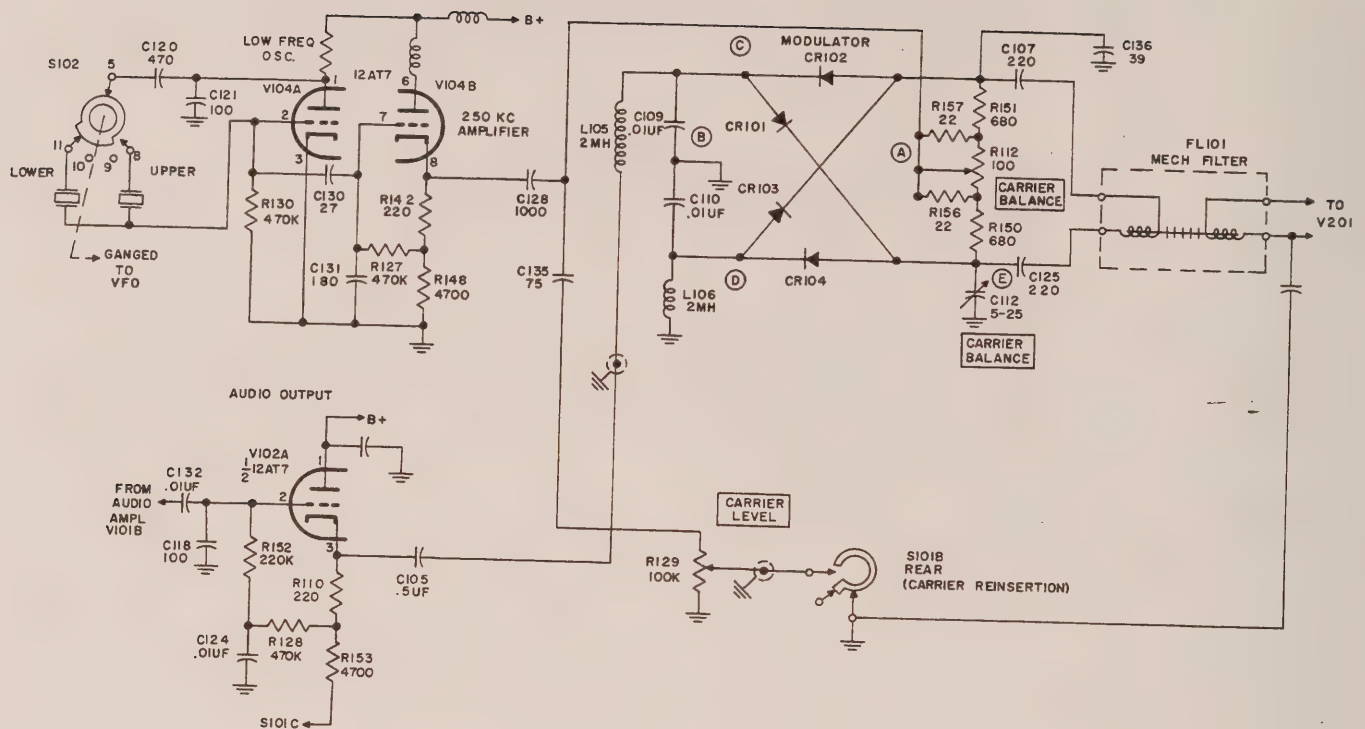

Figure 4-3. LFO, Balanced Modulator and FL101 Mechanical Filter, Simplified Schematic Diagram
4.2.1.2. LFO, BALANCED MODULATOR AND FL101 MECHANICAL FILTER CIRCUITS. Development of the 250-kc carrier frequency in the KWS-1 Transmitting System is accomplished by a crystal controlled oscillator stage, V104. Figure 4-3 is a simplified schematic diagram to show only oscillator V104, the balanced modulator, FL101 Mechanical Filter, and the audio output cathode follower stage. This diagram may be used to study the KWS-1 methods of carrier development, modulation and filtering relative to single sideband transmission.
(4) SIDEBAND SELECTION. The operator has the choice of transmitting on either the upper or lower sideband. The selection is accomplished by switch S102 (see figure 4-3). The KWS-1 normally operates on the lower sideband, however, if S102 is switched to the U, or upper, position, the action selects the "UPPER" sideband crystal for the V104 250-kc oscillator, to change the output frequency of V104 by 3 kc. This is the same bandwidth as the FL101 Mechanical Filter output. In order to maintain the proper frequency relationships between the vfo and the 250 kc lfo, S102 is mechanically ganged to the vfo can. Adjustment of S102 to either sideband automatically adjusts the vfo output 3 kc in
For both cw and AM, a portion of the 250-kc carrier must be reinserted into the r-f circuits. This is accomplished by taking a part of the carrier frequency off the V104B plate through condenser C131. (See figure 4-3.) This is fed through the CARRIER LEVEL control potentiometer R129, by which the operator may adjust the desired amount of reinserted carrier. The signal is then fed through switch S101B and C117 to the output side of Mechanical Filter FL101, through the filter output transducer coil to the V201 first mixer control grid.